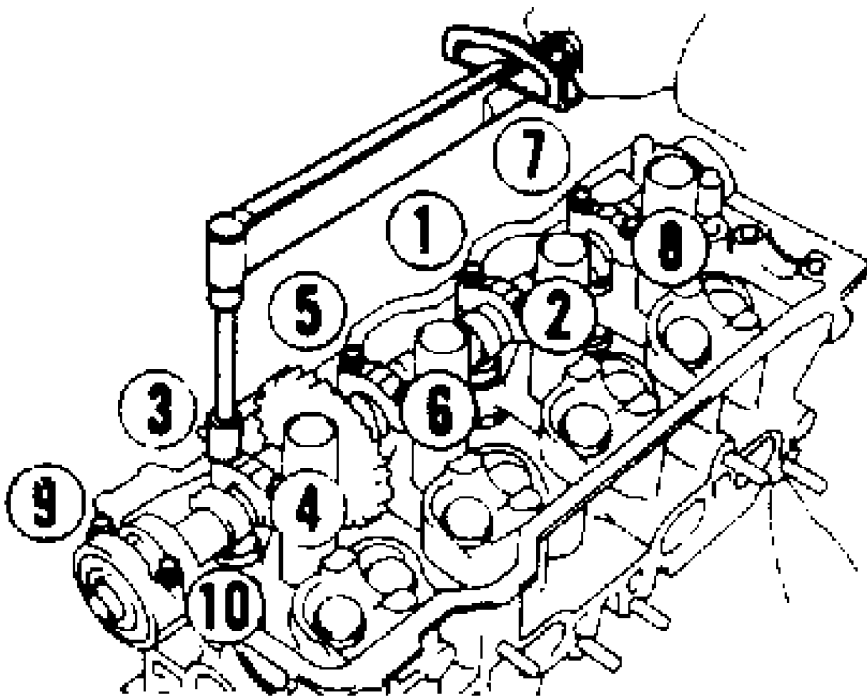

Fig. 18: Bearing Cap Bolt Tightening Sequence
3) Install bearing caps. Apply a light coat of engine oil on threads and under heads of bearing cap bolts. Install and tighten, in sequence, bearing cap bolts in 3 steps. See Fig. 18. Apply multi-purpose grease to new oil seal lip. Install oil seal.